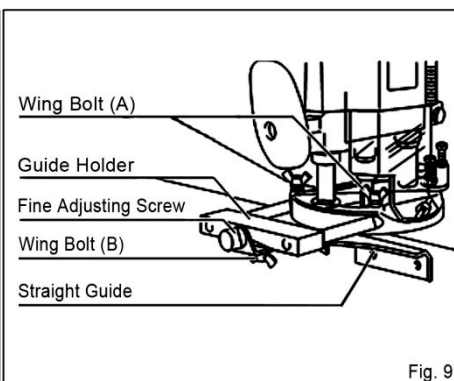

Fig. 9
Install the straight guide on the guide holder with the wing bolt (B). Insert the guide holder into the holes in the tool base and tighten the wing bolt (A). To adjust the distance between the bit and the straight guide, loosen the wing bolt (B) and turn the fine adjusting screw (1.5 mm or about 1/16" per turn). At the desired distance, tighten the wing bolt (B) to secure the straight guide in place. **(Fig. 9)**